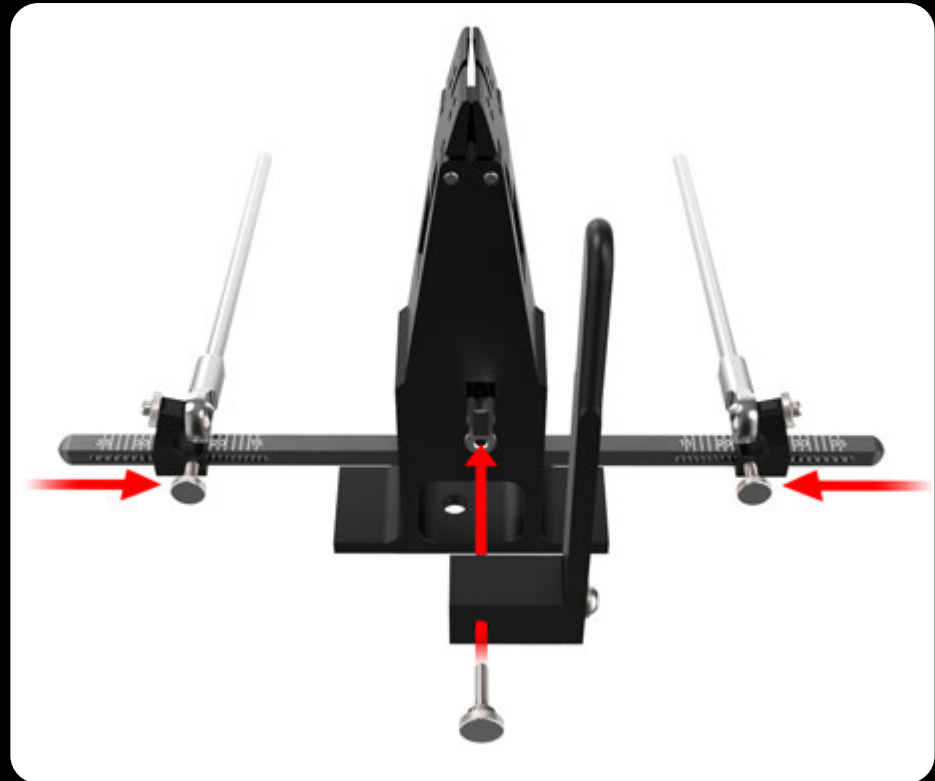

Fig. 2
Step 1: Attach the #3 Vise Lever to the sharpener by sliding the square hole on the Vise Lever Block onto the Cam Shaft as shown in Figure 2. When attached the lever should be to the right of the Vise. Use the Thumb Screw to fasten the Vise Lever to the Cam Shaft.
Step 2: Slide the #4 Guide Rods onto the #5 Degree Bar as shown in Figure 2. The Ball Joints should be facing inward toward the Vise.